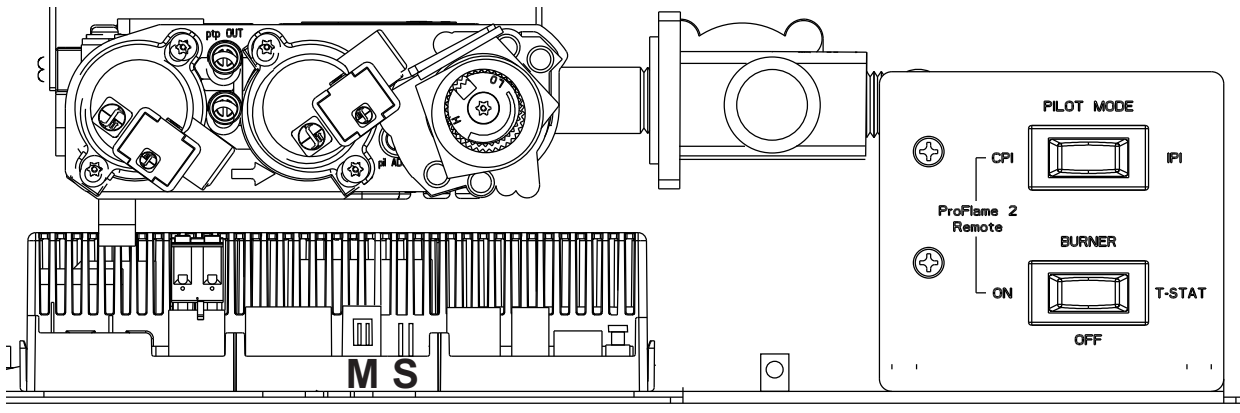

Figure 52a.
4. Connect the short, blue/pink wire lead labelled "S" to the terminal labelled "S" on the front of the IFC board. See fig. 52a.